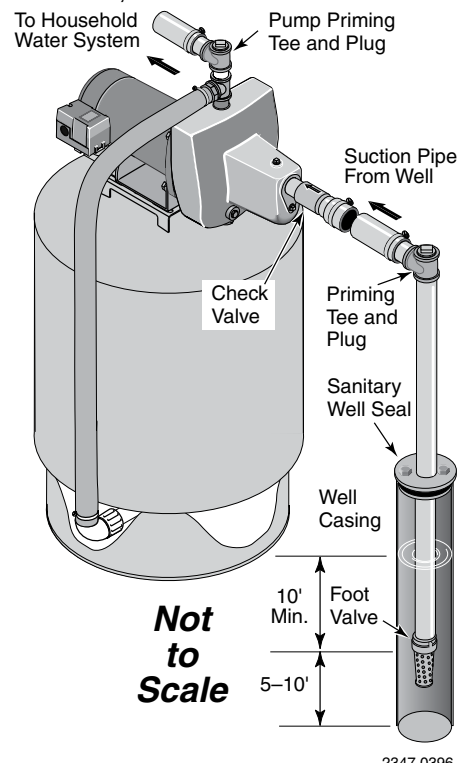

Figure 2: Cased Well Installation
CASED WELL INSTALLATION, 2" OR LARGER CASING (FIGURE 2)
- Step 2. Assemble the foot valve, strainer, and well pipe (see Figure 2). Make sure that the foot valve works freely.
- Step 4. Install a priming tee, priming plug, and suction pipe to the pump (see Figure 2). Connect the pipe from the well to the pump suction port, using the fewest possible fittings – especially elbows – as fittings increase friction in the pipe (however, include a foot valve – see Figure 2). The suction pipe should be at least as large as the suction port on the pump. Use PTFE pipe thread sealant tape on threaded pipe joints. Support the pipe so that there are no dips or sags in the pipe, so it doesn't strain the pump body, and so that it slopes slightly upward from the well to the pump (high spots can cause air pockets which can air lock the pump). Seal the suction pipe joints with PTFE pipe thread sealant tape. Joints must be air- and water-tight. *If the suction pipe can suck air, the pump cannot pull water from the well.*